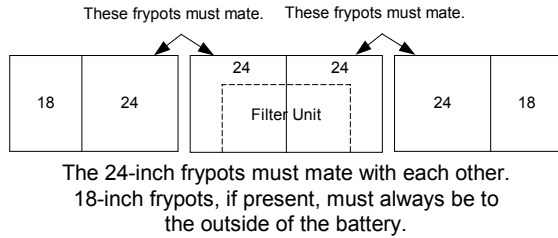

Figure 1. Retainer latches securing filter pan.
2. Prior to removing the fryers from their pallets, open the doors of the 2424G with the filter and unlatch the filter pan locks (Fig. 1, circles). Disconnect the filter supply hose and remove the filter pan from the cabinet. Remove the fryers from the pallets by lifting them up and over the pallet supports. Avoid damage to the casters and caster support bases when lifting and placing fryers.